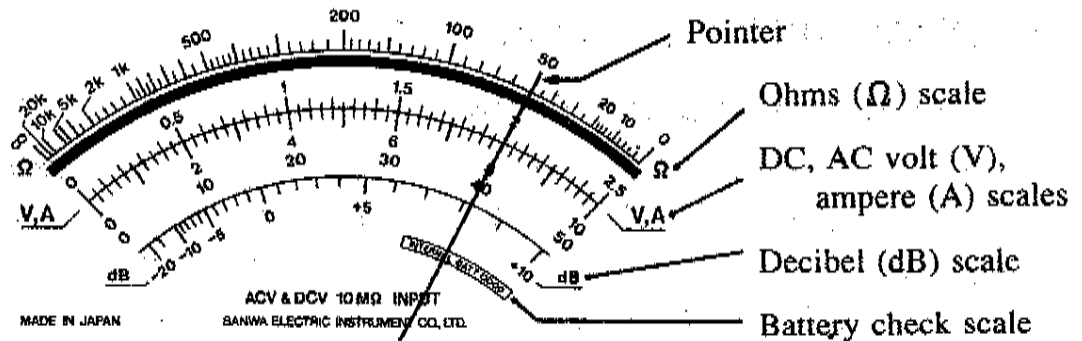

Fig. 3 Scale Plate
- (3) Pointer of indicator: Indicates as shown in Fig. 3.